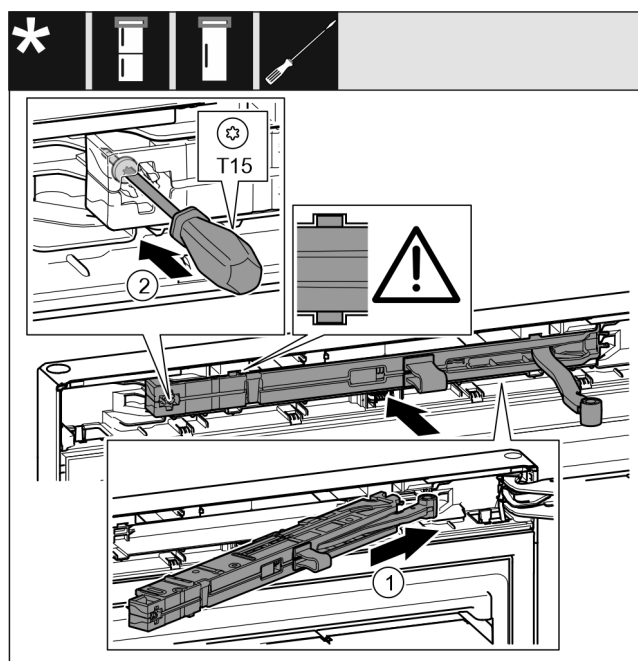

Fig. 49
- ▶ Slide the closing damper unit Fig. 49 (1) on the swap bearing block side up to the stop diagonally into the recess.
- ▶ Tighten the screw Fig. 49 (2) with a screwdriver.